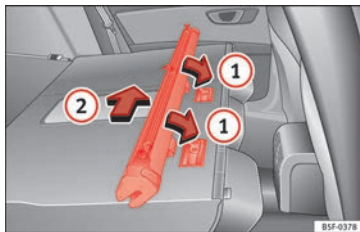

Fig. 169 Assembling the net partition in the rear seat backrests.
- Place the net casing in the rail slots in the direction of the arrows » Fig. 169 ①.
- Push the casing towards the left side of the vehicle in the direction of arrow » Fig. 169 ② and as far as it will go.
» Fig. 169 ②.
» Fig. 169 ①.